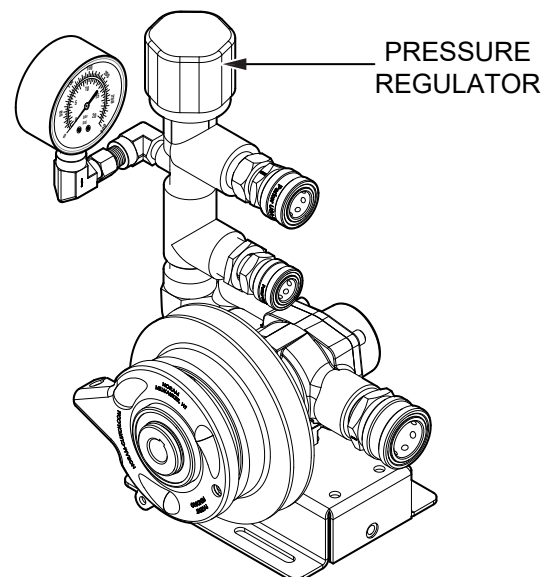

Figure 33. Pressure Regulator
4. Turn the pressure regulator on the pump (Figure 33) to adjust the spray pressure as needed.